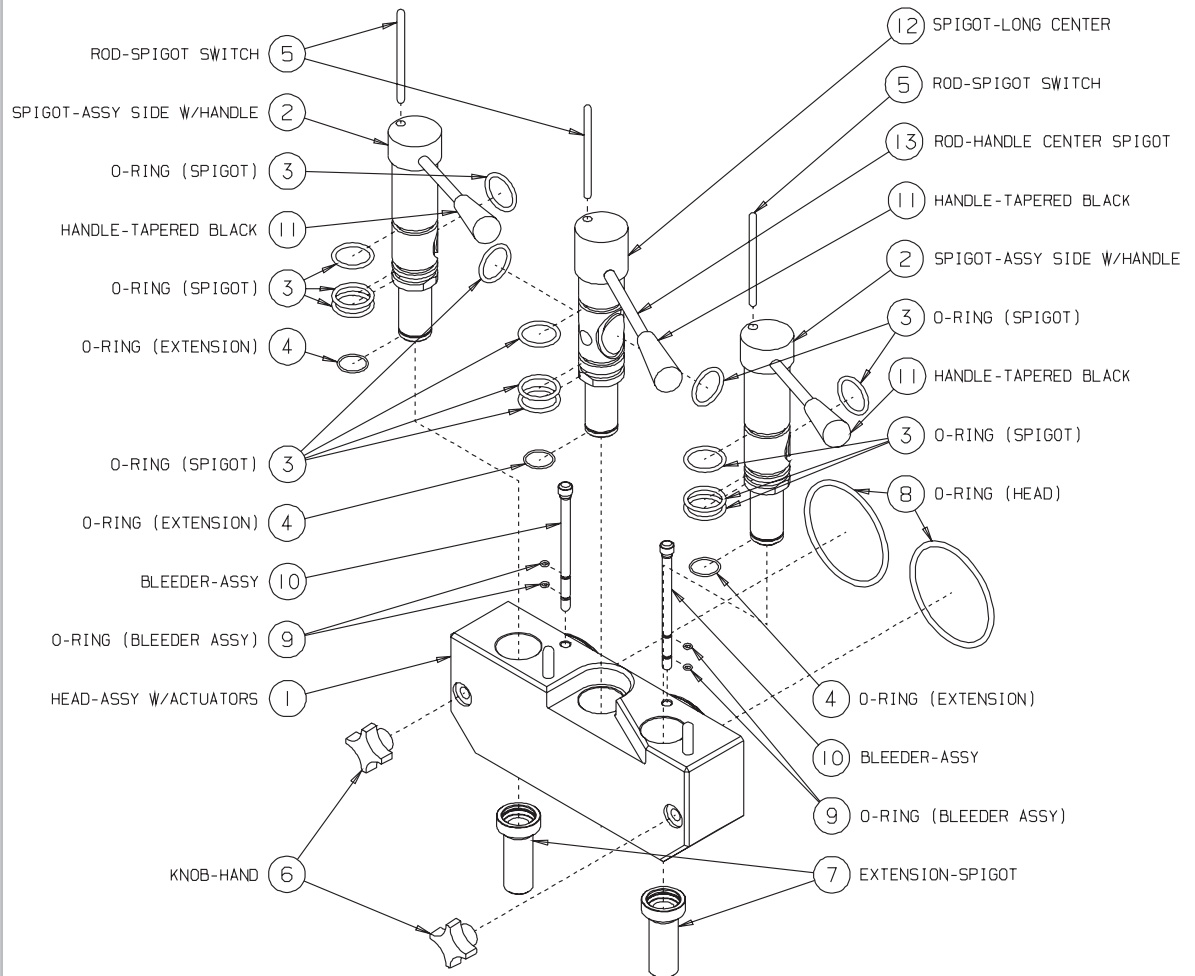

Figure 9-4 Head Assembly
6. See figure 9-4. Install and lubricate the o-rings (3) (see o-ring chart, last page) on the dispensing spigots (2,12) and insert the spigots into the head (1). Check by turning the spigots side to side, making sure they move freely.
7. Place the extension or holding o-ring (4) onto the spigots. Do not lubricate this o-ring.
9. Install and lubricate the o-rings (9) on the air bleed plugs (10). Insert the plugs in the head assemblies (1).